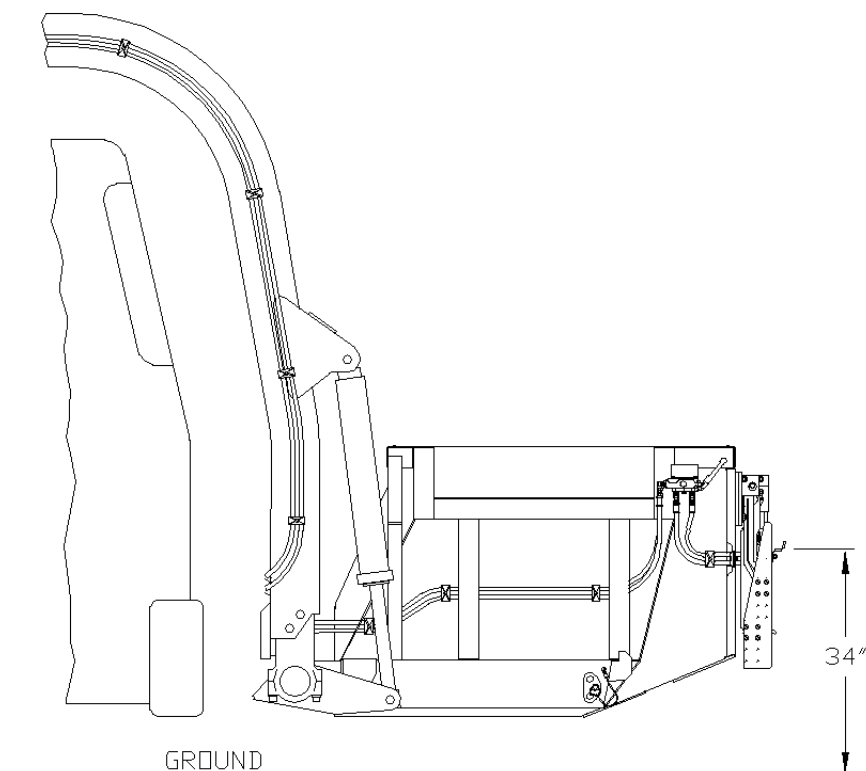

figure I-1
1. Place the **Bayne** front load box and lifter assembly on the ground in front of the truck fork arms. Insert the fork arms into the fork pockets on each side of the box as shown in figure I-1. Insert the locking pins either under or thru each fork to lock the box to the truck fork arms. **DO NOT DUMP THE BOX INTO THE HOPPER UNTIL THE HYDRAULICS HAS BEEN CONNECTED AND ALL AIR IS PURGED FROM THE SYSTEM.**
2. Adjust the ride height of the front load box to obtain a distance of approximately 34" from the pocket of the lift saddle to the ground as shown in figure I-1.